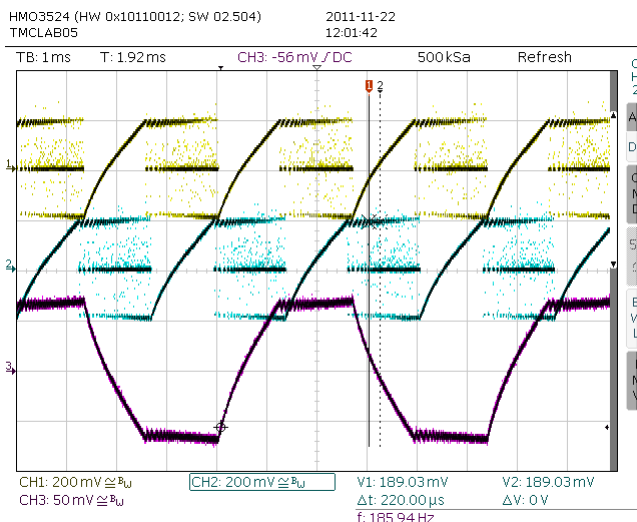

Figure 5 Motor in fullstep operation (CHM=0); CH1 & CH2: Sense resistor voltages, CH3: Current probe coil A
2. Try switching the motor to fullstepping, if your driver supports it. Make sure, that the driver coils see a fixed current. Therefore it is important to switch to fullstep at or near the fullstep positions (TMC26x based drivers) – compare Figure 5. Set *vhighfs* (for TMC5XXX drivers).